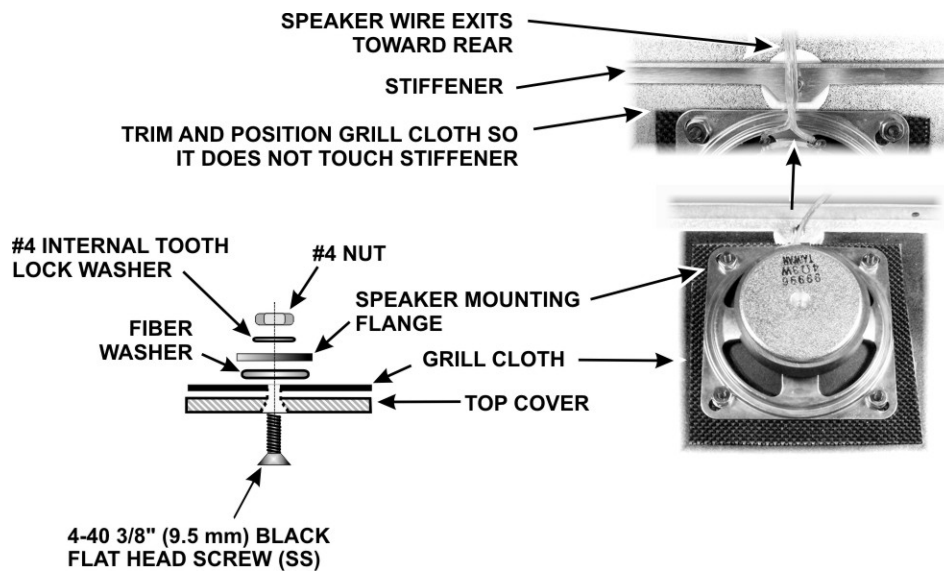
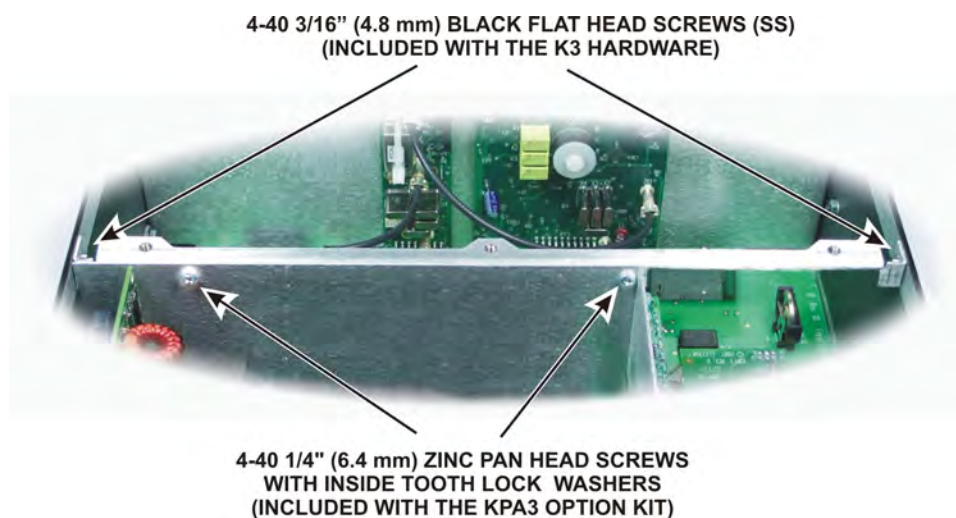

Figure 77. Mounting Loudspeaker.
Figure 81. Installing the Chassis Stiffener Bar.
- Trim the grill cloth to cover the speaker grill openings and overlap the four holes for the loudspeaker mounting screws. Mark and cut four holes in the grill cloth for screws to pass through the cloth. The grill cloth is shown as it must fit after the speaker is mounted in Figure 77. Normally, the stiffener will remain attached to the K3 when you remove the top cover. If you install the KPA3 100-watt amplifier, the stiffener will be attached to the KPA3 shield and cannot be removed with the cover (see Figure 81 on page 55). The grill cloth must be trimmed as shown so it cannot become trapped between the chassis stiffener and the top cover when the cover is removed and replaced.
□ Mount the speaker using the hardware shown in Figure 77. A suggested procedure for doing this is as follows:
Remove the stiffener bar from the top cover and install it on the chassis as shown in Figure 81. The hardware required to attach it to the shield are in the KPA3 Option kit. The black flat head screws used to attach it to the side panels are part of the K3 kit hardware.